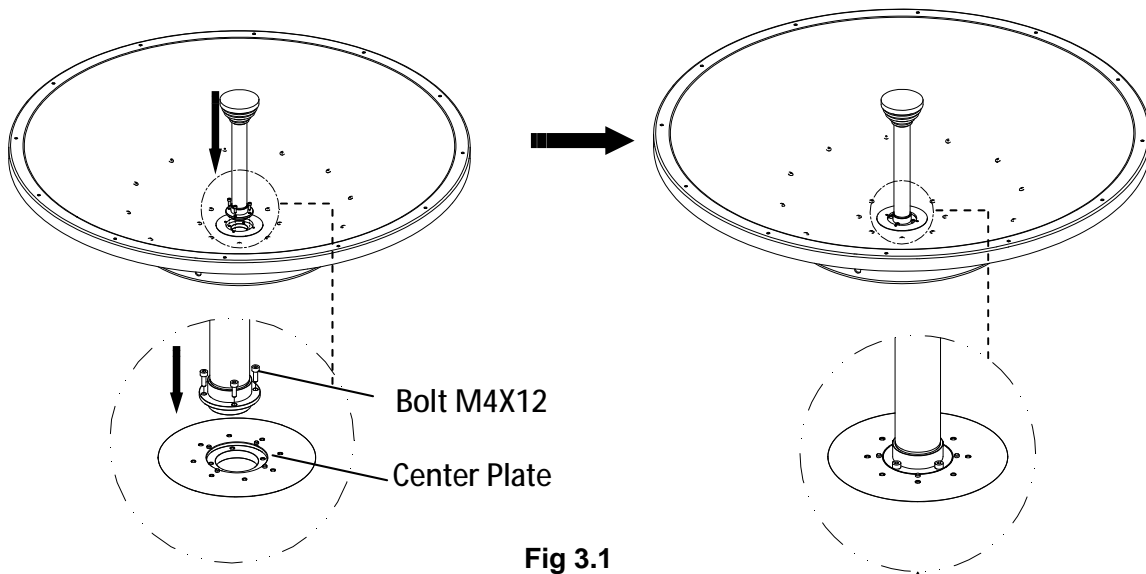

Fig 3.1
3.1 Put Feeder into the Center Plate, and then tighten bolts (shown in Fig 3.1). Ensure that the feed is seated properly before tightening the bolts.